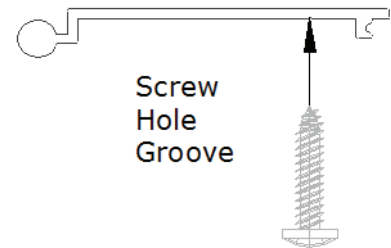

Figure 1
Drill three (3) 5/32" holes in the housing hinge, one approximately 2" from each end, one approximately in the middle. Locate the holes using the screw groove in the hinge (Figure 1).